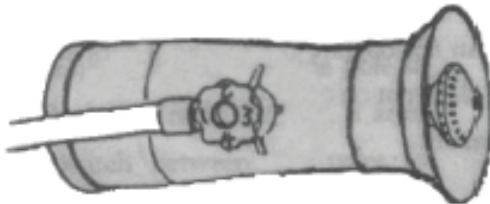

Fig 10
(1) Misting. Loosen the pressing lid, regulate the length of the nozzle opening to meet the different requirements of misting. Turn the regulating valve to change the amount of misting. See Fig.10.